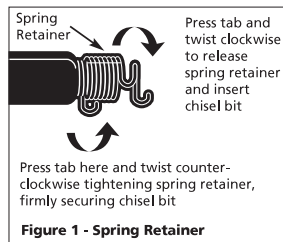

Figure 1 - Spring Retainer
The spring retainer holds the chisel in place. The retainer must be **securely** attached (See Figure 1). The retainer is a normal wear item and should be replaced when worn. Replace with MP2896 (2) piece chisel spring set. The retainer unscrews for easy chisel insertion.